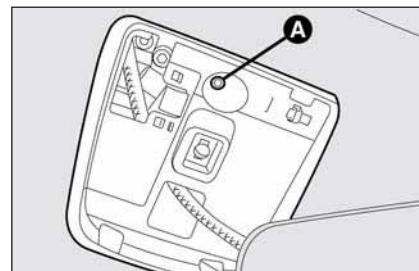

fig. 92
- ☐ fit the wrench into slot **A-fig. 92** and turn it clockwise to open the sunroof and counter-clockwise to close it.